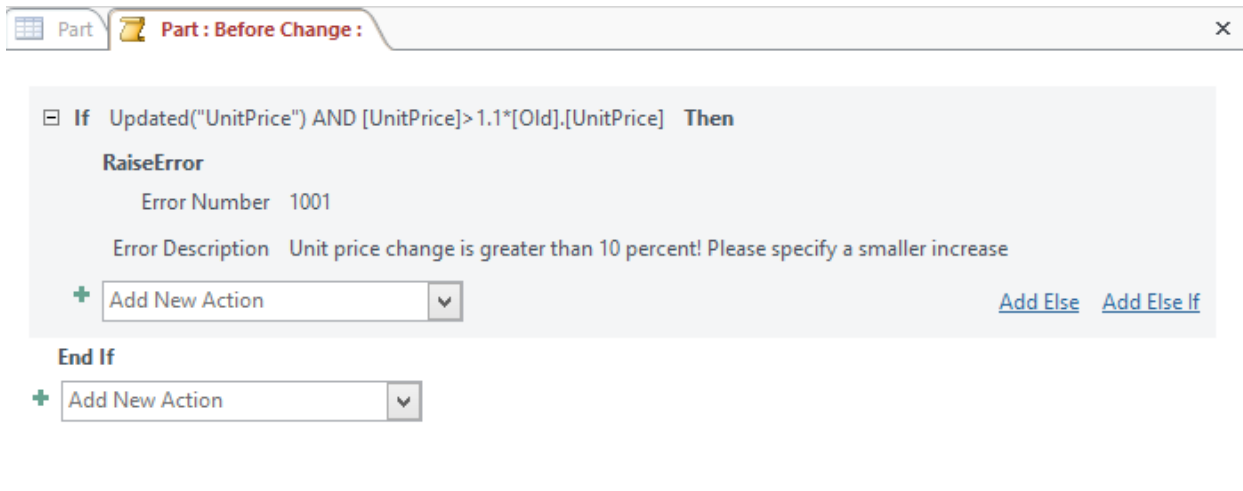

Figure 51: Final *Before Change* Data Macro
6. Save the Macro: Before saving the macro, you should make sure that it matches Figure 51. Save and close the Macro object pane to return to the object pane with the *Part* table in design view. Save the *Part* table in Design view after the macro object pane closes.